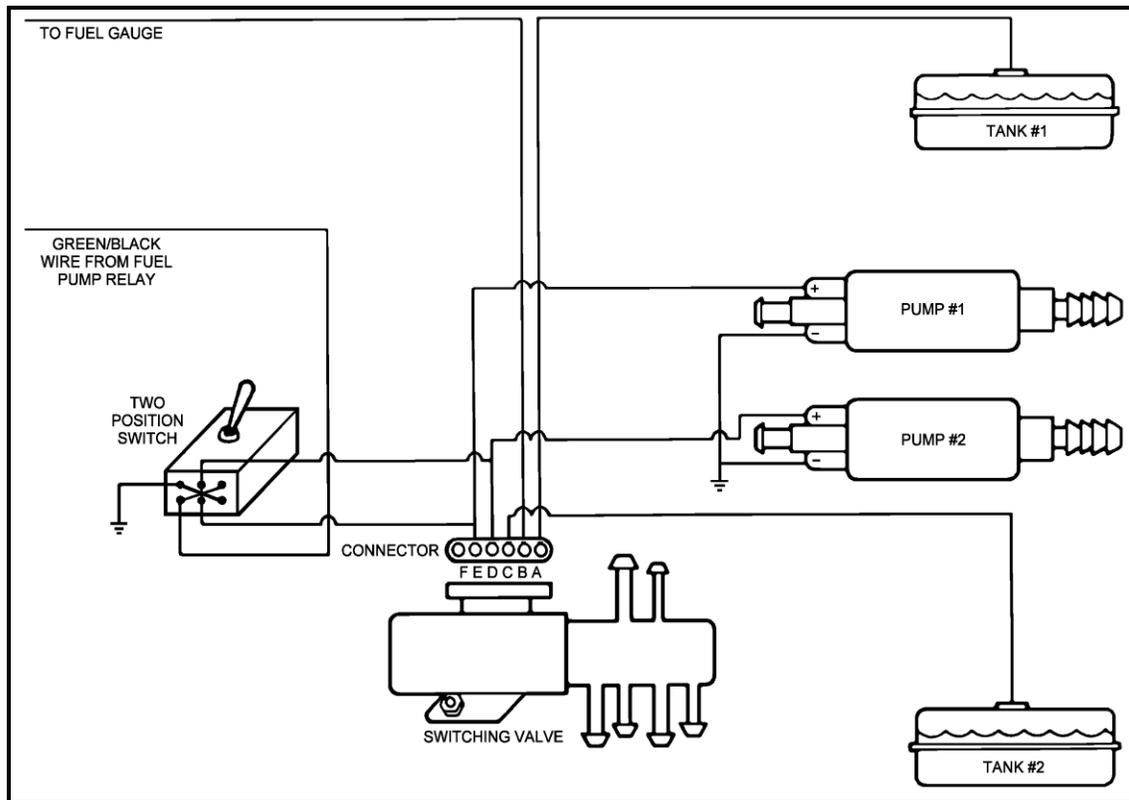

Figure 8
3. Mount the double-position, double-throw toggle switch, along with the relay under the dash if the vehicle is not already equipped with this type switch. Connect the electrical wiring, as shown in Figure 8 on the next page.
NOTE: Mount the double-position, double-throw toggle switch along with the relay under the dash if the vehicle is not already equipped with this type switch. Connect the electrical wiring, as shown in Figure 8 on the next page.